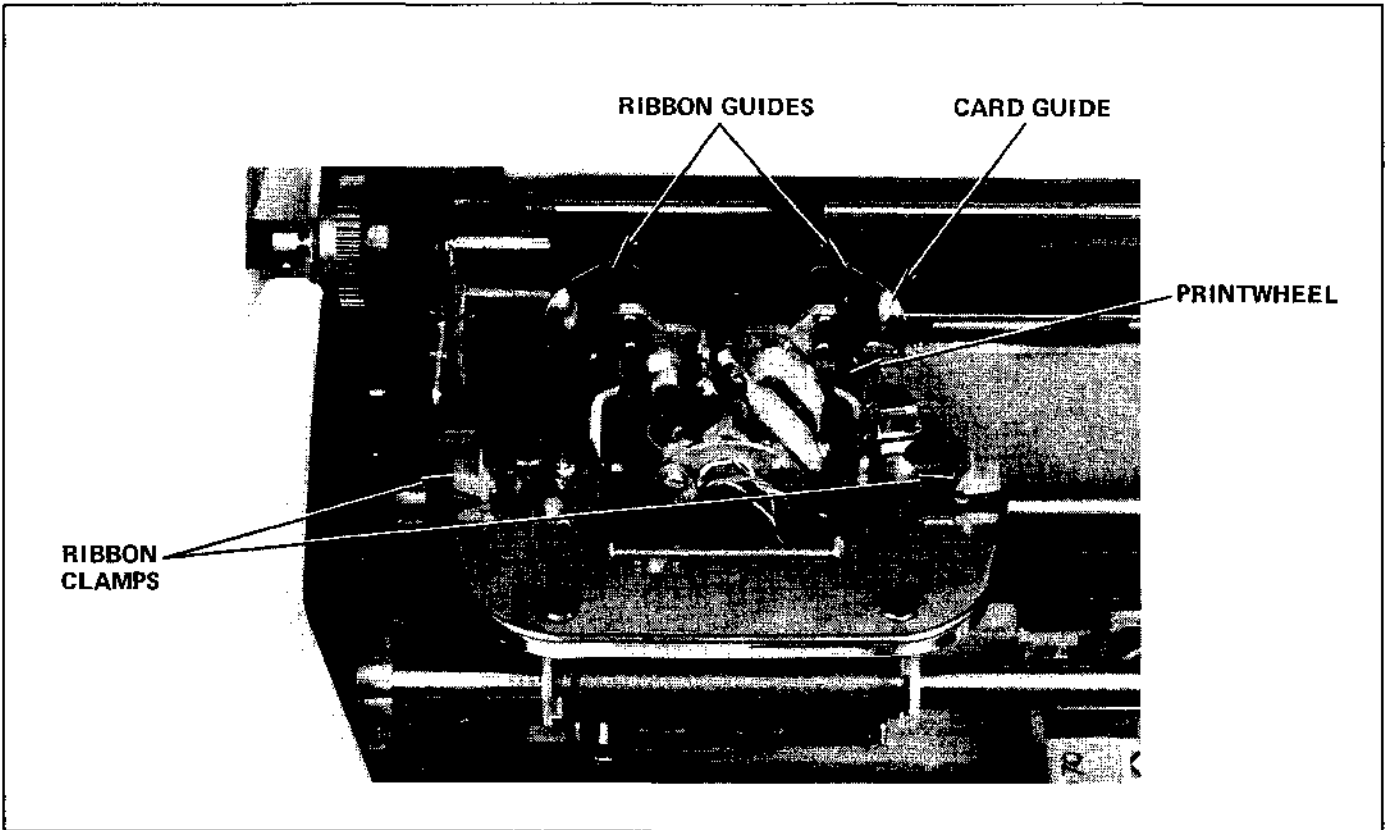

Figure 2-9. Ribbon Cartridge Placement
- (4) Holding the new cartridge with the DIABLO name on top, guide the ribbon around the two metal ribbon guides (Figure 2-9) and down between the printwheel and the card guide. Then push the cartridge down until the ribbon clamps snap into position to hold it in place.
- (5) Replace the access cover.